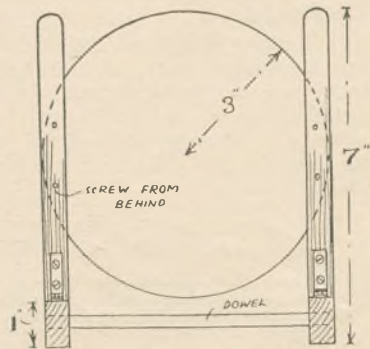

Fig. 5—End view of dowelled rack
At this juncture, make the casing. The sides (A) and front board (B) are detailed at Fig. 5, same—like all the rest of the casing—being cut from ¼in. plywood or fretwood. When the sides are cut out, select the front board (B) and glue it tenons to the mortises of the sides.
The upright end will be made as in Fig. 5, and fixed to the base strips exactly as in the previous example.